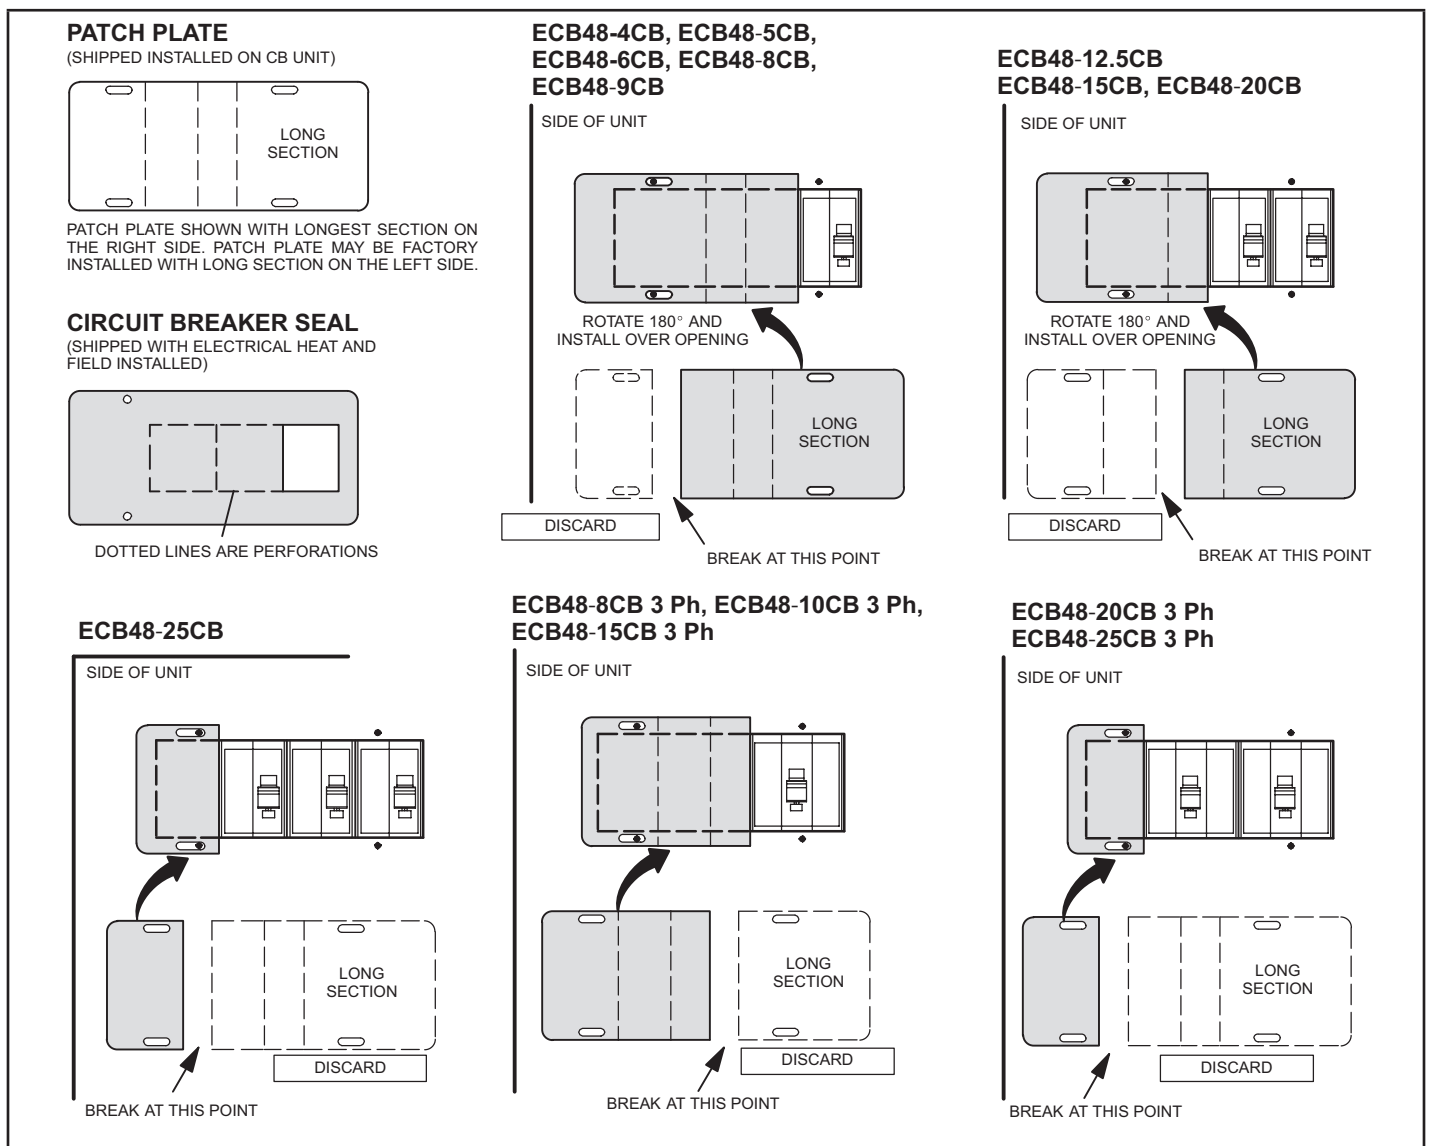

FIGURE 5. Circuit Breaker Heater and Patch Plate Configuration (CBK48)
- 8 - Break the patch plate for the specific size of electric heat unit / air handler unit that you are installing as illustrated in figure 5. Discard the unused piece of patch plate.